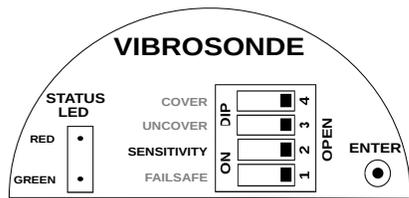

Figure 9: Saving Sensitivity Value
- Sensitivity value is entered, but not saved. To save and test the sensitivity, set the SENSITIVITY switch back to OPEN position as shown in Figure 9.